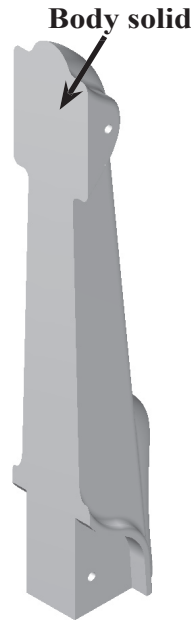

Fig. 5
Step 3. Click the solid body to select it and **press ENTER**, Fig. 5. The solid will change color with selected.